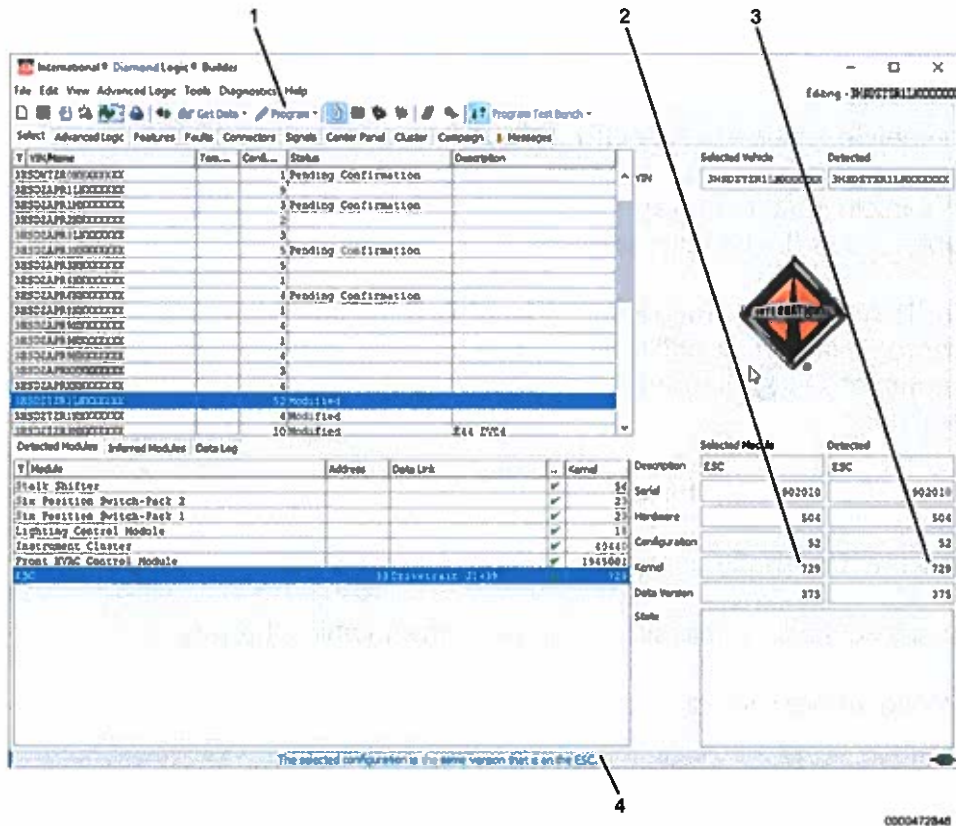

Figure 2. Programming Complete
NOTE: When update has been completed for selected module, kernel version listed in Selected Module column (Figure 2, Item 3) will match version listed in Detected column (Figure 2, Item 2). Also, status bar (Figure 2, Item 4) will display the following message: "The selected configuration is the same that is on the ESC."
12. Click **PROGRAM** button (Figure 2, Item 1) in toolbar to begin updates. DLB will indicate programming status in status bar (Figure 2, Item 4) located at bottom of window.